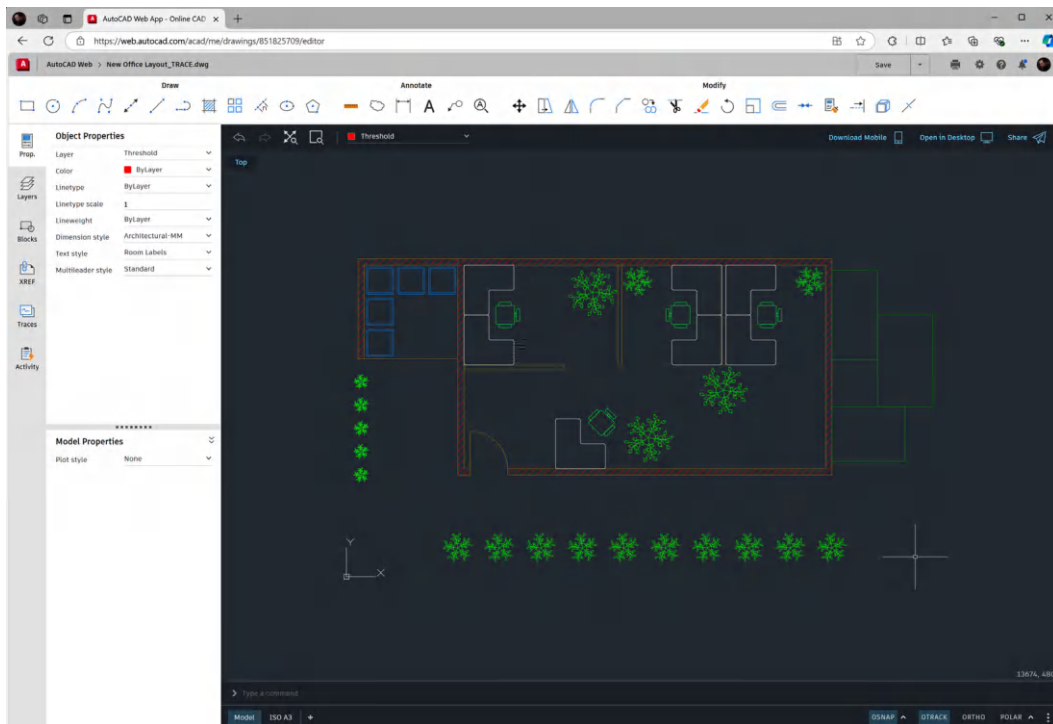

Figure 16.22: The DWG file open in AutoCAD Web
2. The DWG file will open in AutoCAD Web, as shown in *Figure 16.22*.